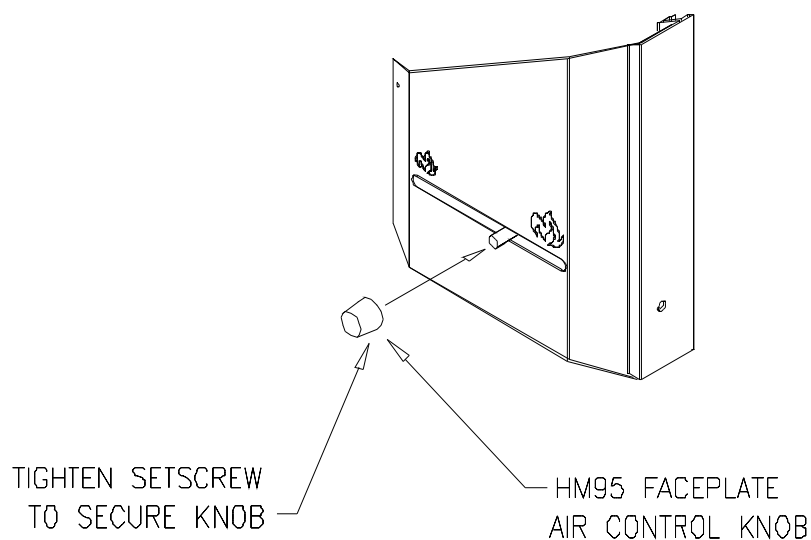

Figure 2.10
10. Add the air control knob (Figure 2.10).